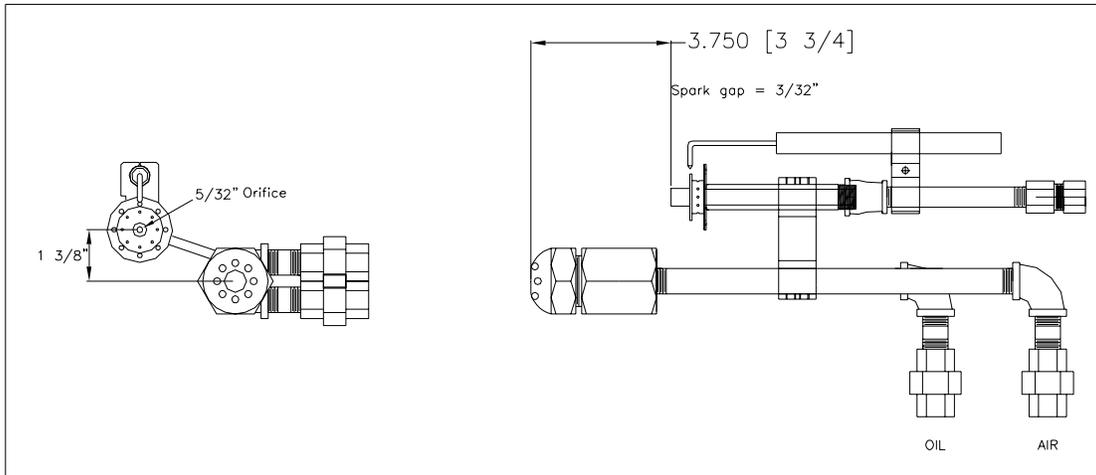

Figure 13: pilot/gun details
- 3.3.4 Remove the pilot assembly and check for proper settings of the spark gap, tightness or electrode in its bracket and firm connections of the electrode cable (see Figure 13 for pilot details).